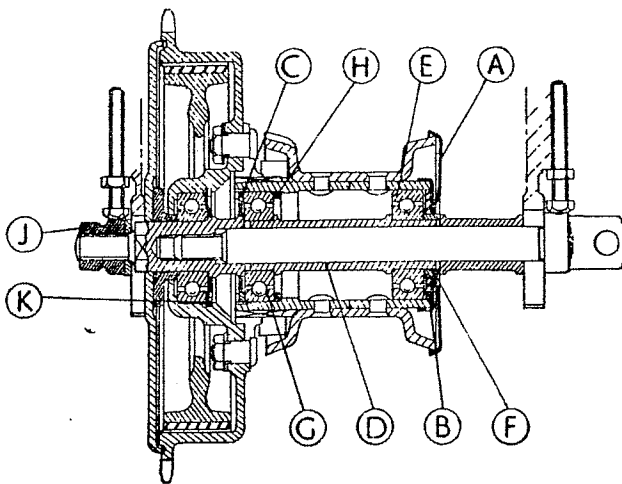

Fig. A32d. Section through the rear hub.
The hub is fitted with two ballraces which are a light press-fit on the hollow spindle and in the hub shell. Remove the dust cap (A) Fig. A32d, and felt washer (B). Unscrew the ballrace retaining ring (C). This ring has a left-hand thread and therefore unscrews in a clockwise direction.